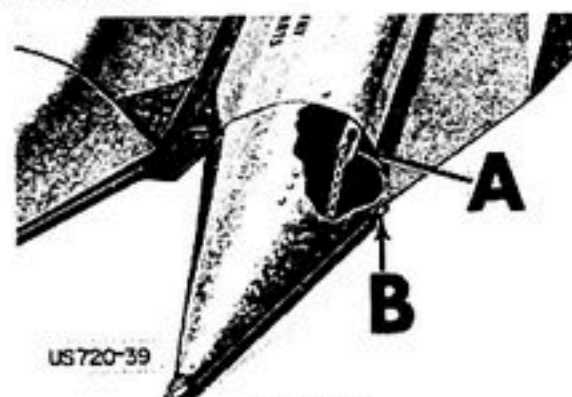

Figure 33A
2. Insert bolt through shoe, frame and brace at "F" (Fig. 33A) using bushing and washer. Hole used in